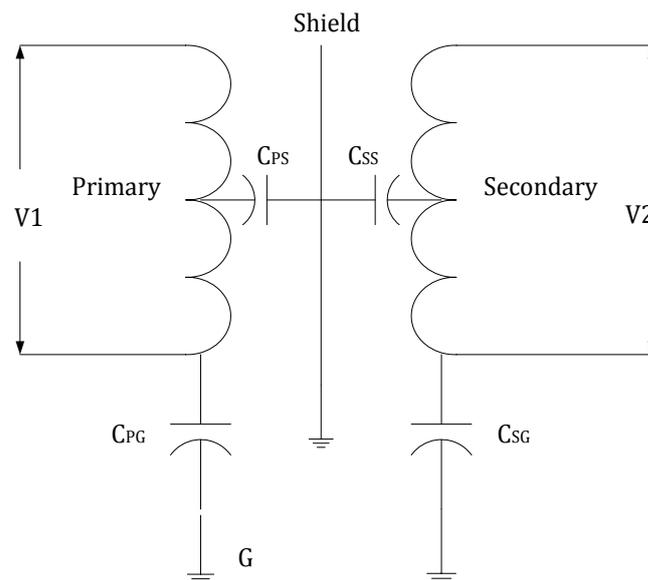

Figure 2.4 Common mode noise attenuation by shielded isolation transformer
From figure 2.4, Capacitance between the primary and the shield, and the secondary and the shield, form a potential divider reducing V_2 to a low level.
- Figure 2.4 shows how common mode noise attenuation is obtained by the use of a shielded isolation transformer.